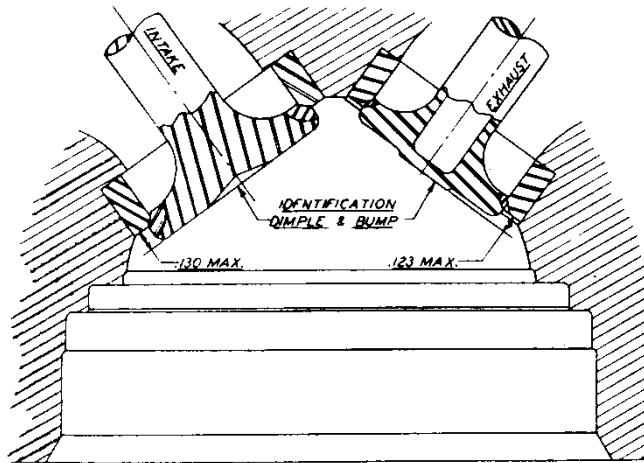

FIGURE 10 - PROPER VALVE SEATING IN NEW CYLINDER HEAD
- e. Install a close fitting pilot in the valve guide and measure the runout of the inserts with a suitable indicator. If the runout exceeds 0.5 mm (0.002 in) or if the insert is pitted, burned, or corroded, refacing is necessary. Using a suitable grinder and 45 degree stones with true faces, grind the insert, first using a coarse stone and finishing with a fine stone, removing as little metal as necessary. Runout of the ground face should not exceed 0.025 mm (0.001 in). See Figures 10 to 13 for refacing limits and method of checking. Care should be exercised that intake valves are not installed in exhaust seats. To assist in identification, a dimple has been machined in the intake valve heads, and a bump has been left on the exhaust valve heads. The previously mentioned drawings illustrate these identifying markings.